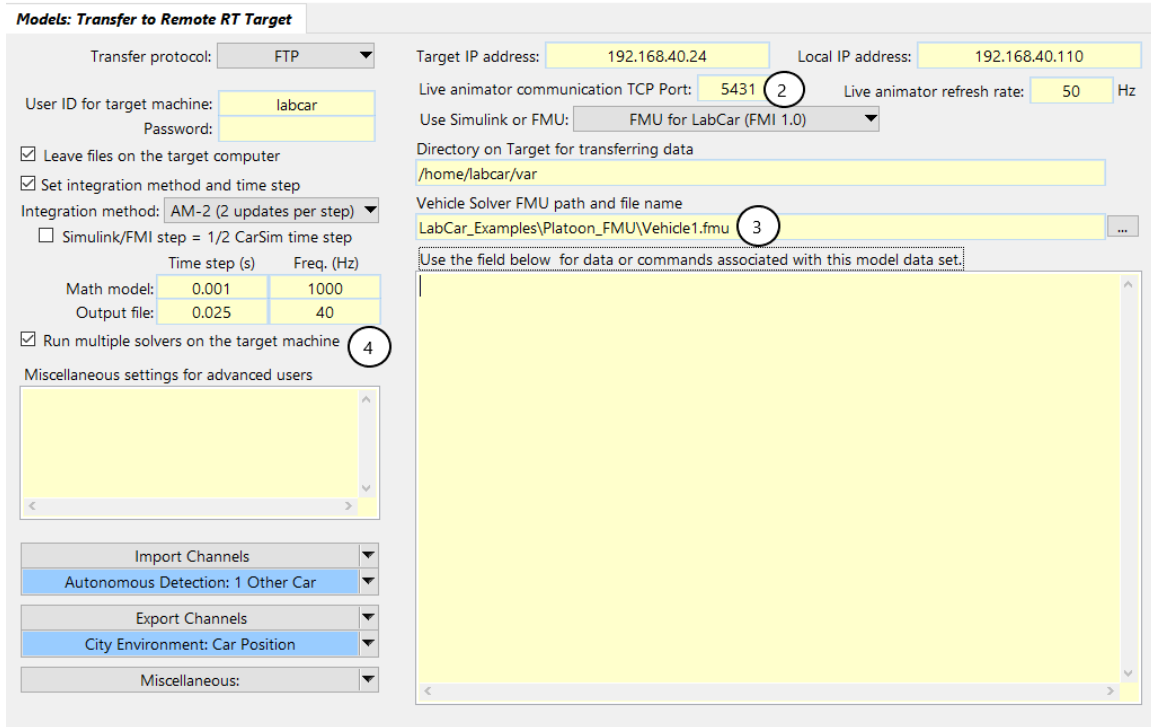

Figure 37. LabCar Parallel Solvers Models Screen Setup.
Each Run control included in the Parallel Solver screen will need a uniquely defined 'Models: Transfer to Remote RT Target' dataset to specify separate live animator communication TCP Ports ② and FMU files ③ for each parallel solver (Figure 37).